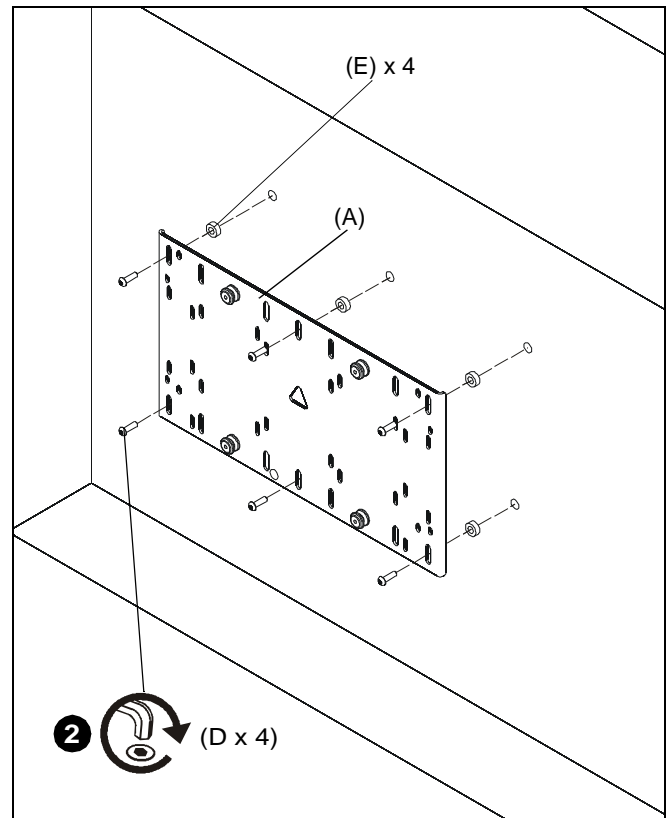

Figure 2
2. Attach bracket to back of display by inserting four M6 x 20mm button head cap screws (D) through interface bracket (A) holes, nylon spacers (E) and into holes on back of display. (See Figure 2)